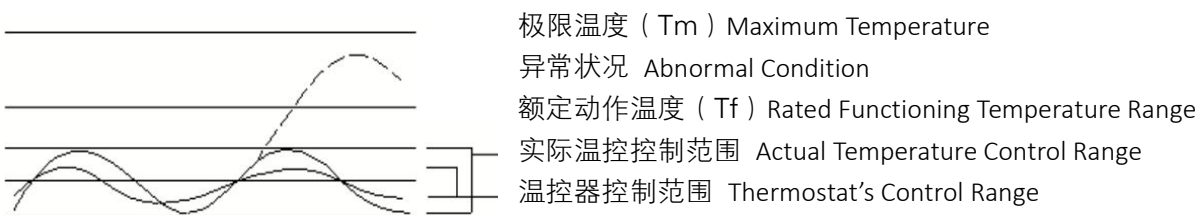

图 1 Fig.1
- 应用产品必须经过测试以确定出现任何异常状况时都不会使温度保险丝周围温度超过极限温度 (Tm)，这种状况可能出现在一种称为“余热过冲”的状况下。例如：一个热风机在进风口或出风口堵塞时引起温度升高到 Tf，这时温度保险丝断开电路，但是，一个不正确的设计可能会引起装置提前开路 and 过度的余热过冲可能会损伤保险丝，应用产品须经测试以确定在正常的温度波动状态 (如控温器的动作与复位引起的加热器温度波动) 下，温度保险丝周围温度在控温器的通断循环中不会达到 Tm。(见图 1)
- The end product should be tested to ensure that potentially abnormal conditions do not expose the thermal cutoff to the temperature exceeding its Tm. This condition may be subjected to a blocked inlet or outlet condition on attaining its Rated functioning temperature opening of the device and excess overshoot may cause shooting or damage to the thermal cutoff. The end product should be tested to ensure that under normal cycling condition (such as cycling of a thermostat), the thermal cutoff never reaches its Tf during the 'on' or 'off' cycle. (see Fig 1)